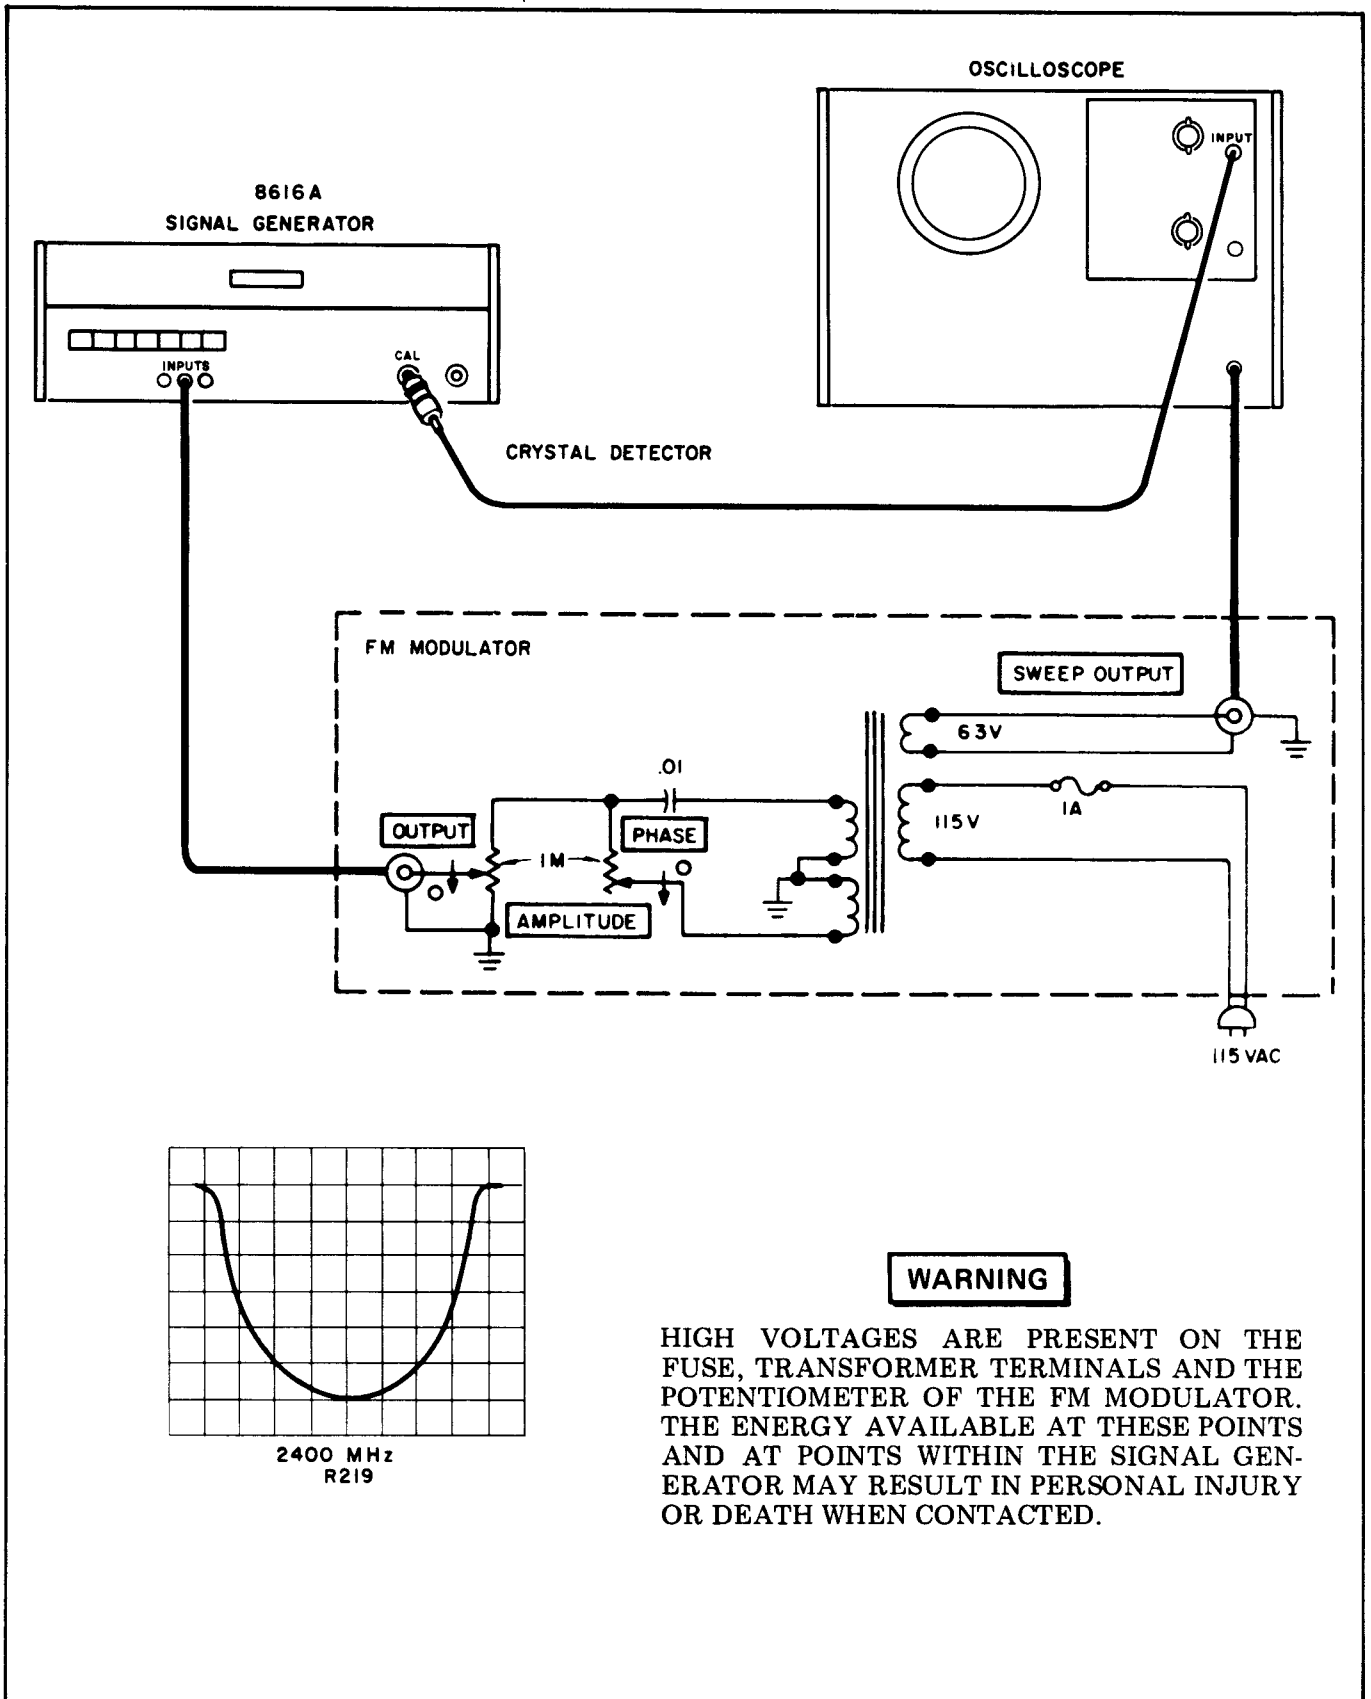

Figure 5-5. Frequency Tracking Setup
c. To observe repeller modes of the klystron, a FM Modulator, with adjustable phase and amplitude controls, is necessary. Such a device is shown in Figure 5-5; it consists of a small power transformer connected with the primary and secondary windings interchanged; two one-megohm potentiometers; a 0.01 μF capacitor; two BNC connec-
d. Apply external FM (60 cycles) and view mode patterns on oscilloscope. Adjust PHASE control of FM modulator and adjust tracking pot (R219) for mode pattern shown in Figure 5-5.